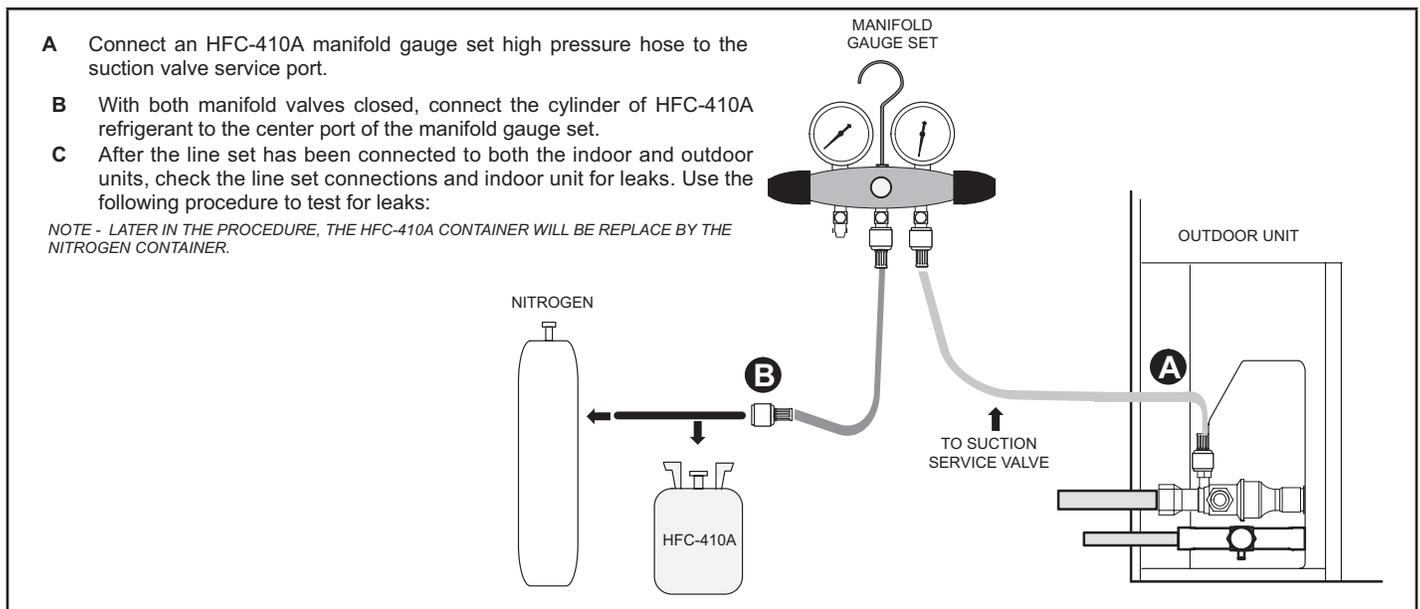

FIGURE 13
- 1 - Connect an HFC-410A manifold gauge set as illustrated in figure 13.